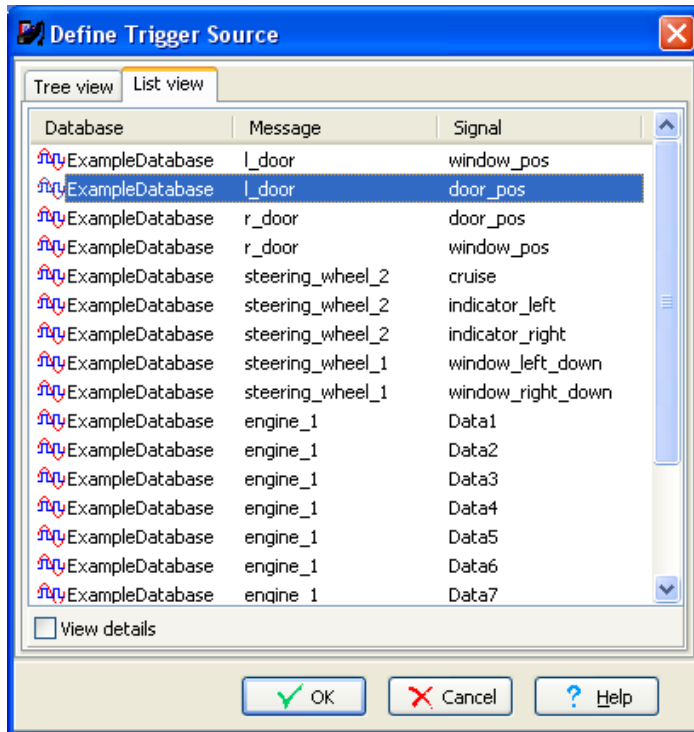

Figure 7. Define trigger source.
- Choose the signal `door_pos` that belongs to the message `l_door` and click at the *OK* button. See Figure 7.